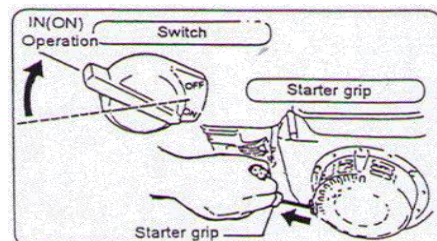

fig. 6
4. Turn engine start switch to ON position. (Fig.6)
5. Hold recoil starter grip and pull it slightly until you feel light resistance. Pull it strongly there. Be careful not to pull it too hard however because it may come off. Do not release the grip from the pulled position but return it to starter case before releasing. (Fig.6)